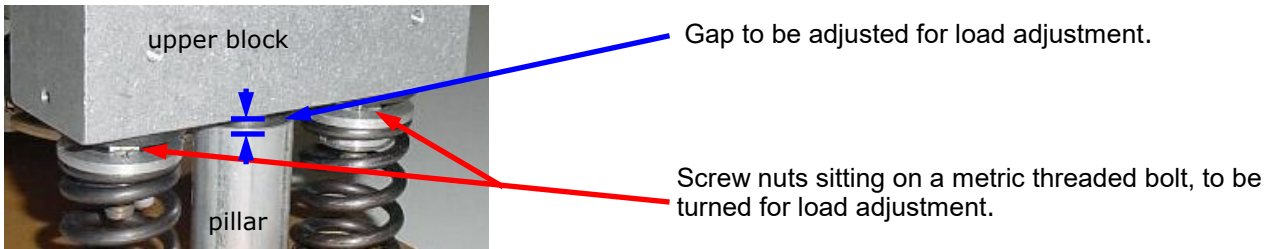

Fig. 3: Load Adjustment
*Please notice: Do not turn the screw nuts too far down or you may damage the units. Under no circumstances should the indicated space in fig. 3 be greater than **10 mm**.*